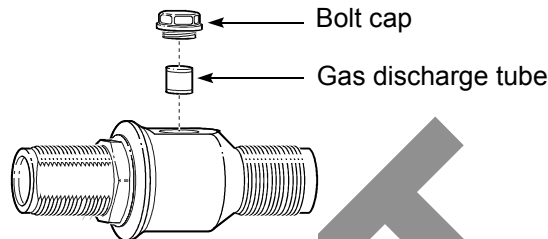

Figure 28 – Replacing a gas discharge tube in a Type N lightning arrester
4. Replace the gas discharge tube; see *Figure 28*.